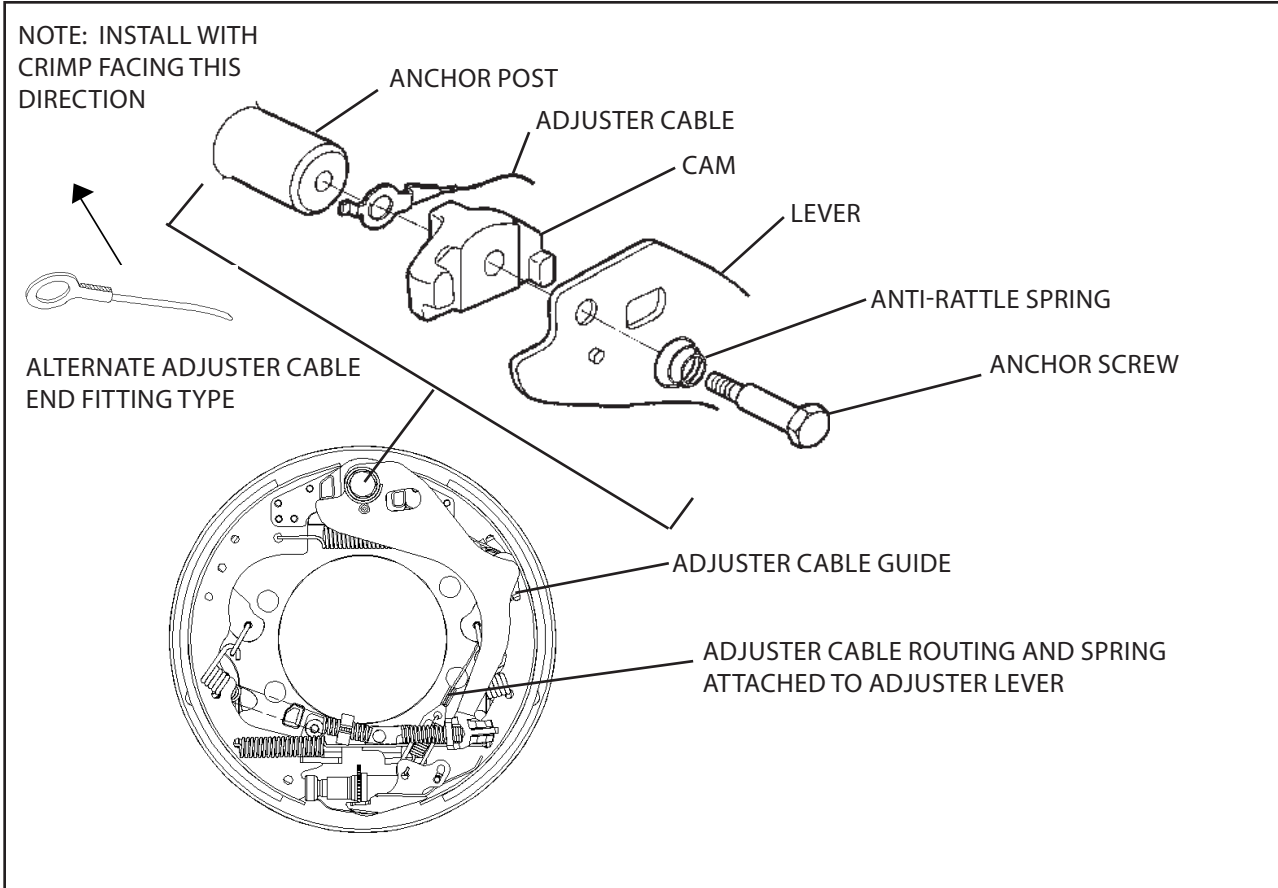

Figure 18. Install Adjuster Cable, Cam Lever, Anti-rattle Spring and Anchor Screw
3. Reinstall the adjuster cable, new cam plate, new lever, anti-rattle spring (small coil end toward screw head for Release 2), flat washers (if previously installed on your application), and new anchor screw as shown in Figure 18. Make sure the adjuster cable end fitting is installed to allow the cam plate to sit flat on the fitting and anchor post.
- Stepped type end fitting - the step faces towards the backplate. See Figure 18.
- Alternate "eyelet" type fitting - cable crimp portion faces towards the backplate. See Figure 18.